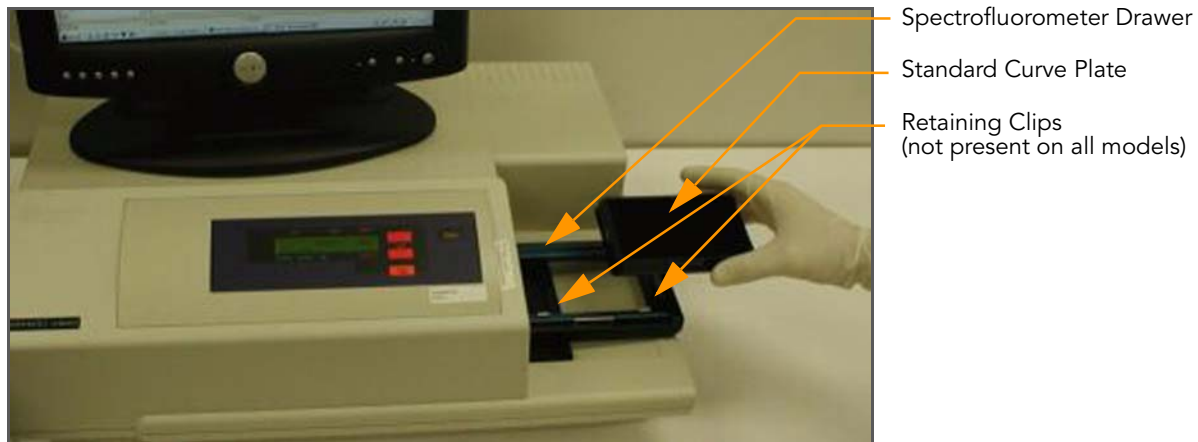

Figure 84 Placing Standard Plate in Spectrofluorometer Drawer
5. Place the front edge of the plate (manufacturer's nameplate side) into the drawer first, with gentle pressure against both retaining clips (Figure 84).